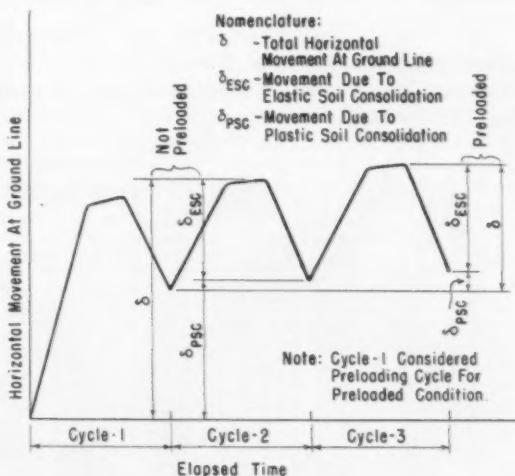

Fig. 2 Partitioning of pole movement into components resulting from plastic and elastic soil consolidation
The analysis was conducted by using the first term of equation [11] to compute the rotation at the ground line caused by plastic soil consolidation, Φ_{PSC} ; and elastic consolidation Φ_{ESC} . The values of δ_{PSC} and δ_{ESC} used in equation [11] were obtained from the test data as illustrated in Fig. 2. Two soil conditions, preloaded (PL) and not preloaded (NPL) were considered in the analysis. For the preloaded soil condition, δ_{PSC} and δ_{ESC} were measured as indicated in Fig. 2 in the last cycle. For the non-preloaded condition, δ_{PSC} and δ_{ESC} were measured in the second cycle. Thus, data for movement during the second cycle of repeated loading with and without a preloading cycle were available from the experimental data. For the preloaded condition, the first cycle is considered the preloading cycle.